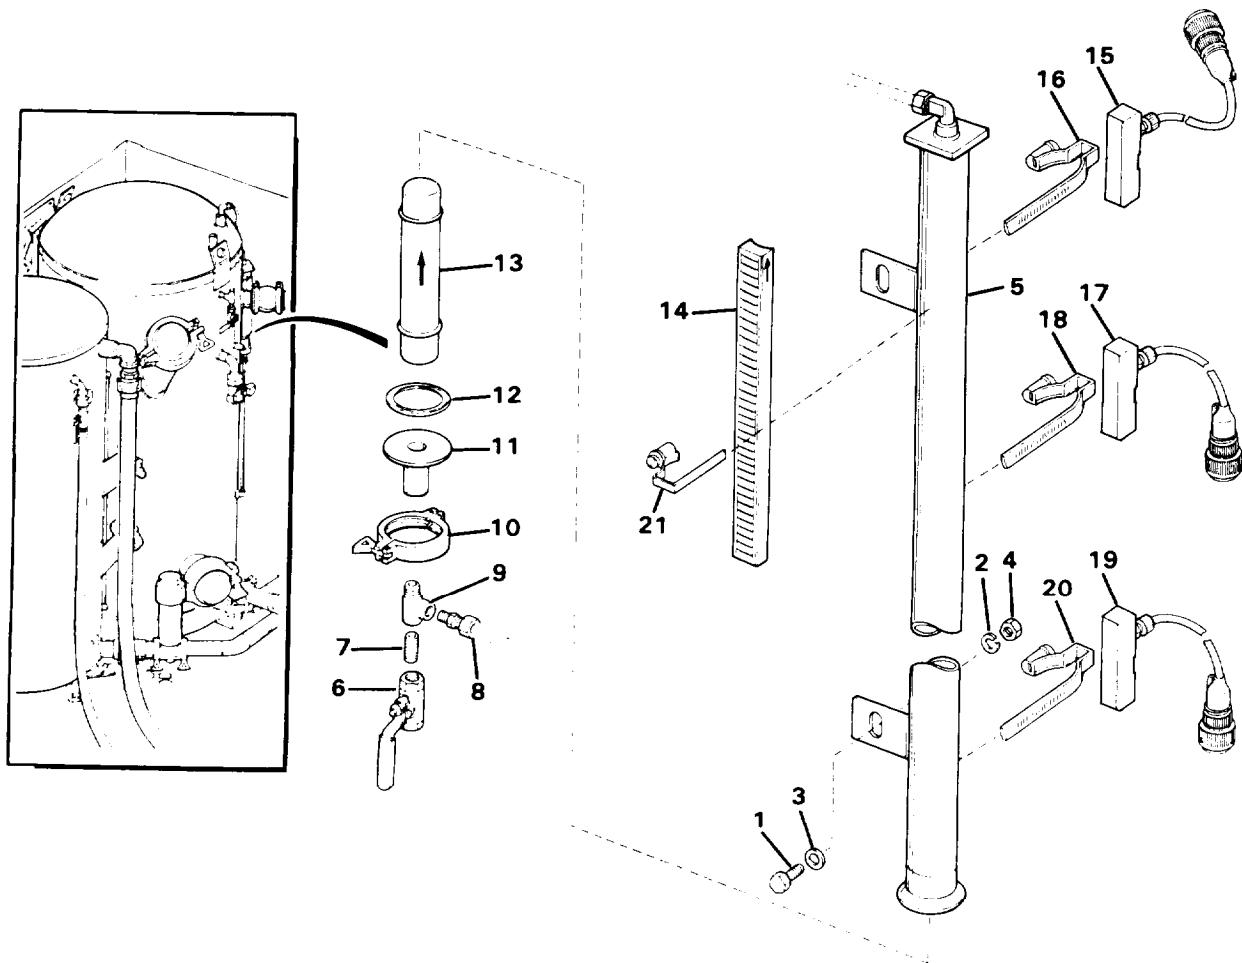

Figure 4-61. Media Filter Air Blanket Level Indicator Assembly
- e. Open clamp (10) and remove cap (11) and gasket (12).
- f. Remove float (13).
- c. Clean out any filter media in chamber (5) or in tubing attached to fitting (8) or the tubing attached to the top of chamber.
- a. Use float(13) and slowly run it up or down flag indicators(14) to turn all flags white before installing on chamber (5).
- b. Attach a multi meter set to ohms x 1 to the A and B pins of each switch (1 5, 17, 19). Hold the individual switches in the position shown in Figure 4-61 (wires up or down on the switch). Switch (1 5) should show no continuity (open) and switches (17) and (19)should show continuity (closed). Use float (13)to change the switch to open or closed as indicated above if they are not in the correct position by running it past switches until they change position.
Level switches must be correctly positioned in relation to sight indicator for proper operation. Switches must be installed (180° from the sight indicators) with the wires as shown in Figure 4-61. Switch (15) wires up and switches (17 and 19) wire down.
b. Install sight indicators (14) with clamps (21). Be sure indicators(14) are located in relation to the marks made during disassembly and that the marked tops of the indicators are at the top of the assembly.